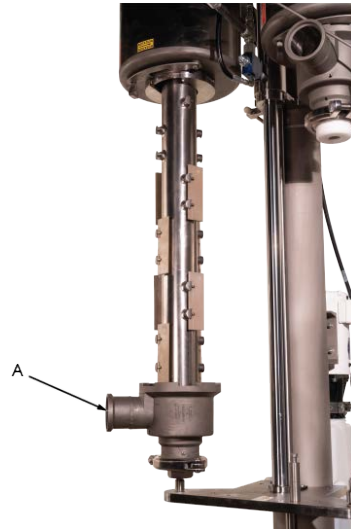

Figure 82 Installed Shaft Clamp
8. Remove the clamp on the head. (See Figure 82, Item A) and shaft nut guard.